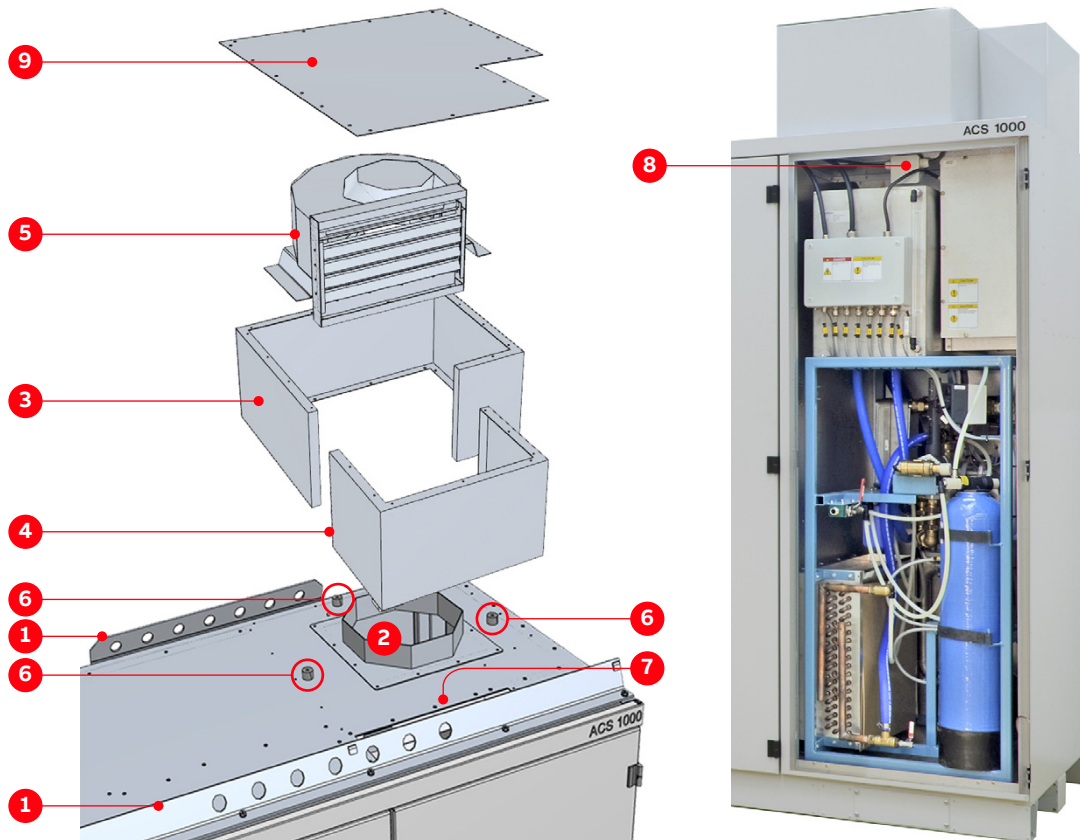

Figure 6-5: Installing the redundant fan
1. Remove the lifting rails (1 in Fig. 6-5) and the cover (2 in Fig. 6-5).
2. Fasten the two parts of the fan casing (3 and 4 in Fig. 6-5) to the roof and with each other.
3. Put the fan (5 in Fig. 6-5) into the casing and fasten it to the vibration dampeners (6 in Fig. 6-5).
4. Route the power supply cable through the rectangular opening (7 in Fig. 6-5) into the cabinet and connect it inside the terminal box (8 in Fig. 6-5).
5. Install the cover of the fan housing (9 in Fig. 6-5).